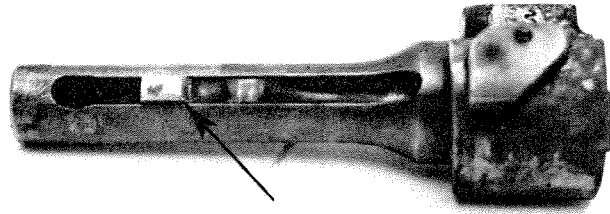
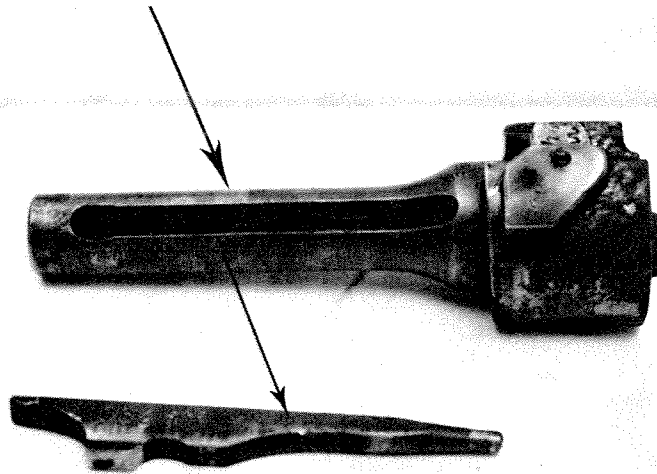

Figure 3-13. Firing pin pushed to rear of bolt.
Figure 3-14. Firing pin extracted from bolt.
- i. To remove the firing pin from the bolt, push the firing pin to the rear of the bolt (fig. 3-13), and rotate the bolt upside down extracting the firing pin (fig. 3-14).